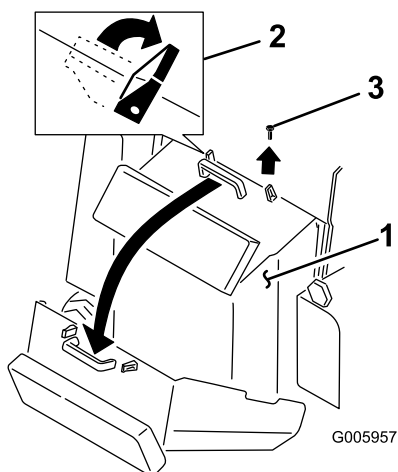

Figure 25
2. Release the 2 locking tabs on top of the rear-access cover (Figure 25).
3. Remove the bolt located next to the right locking tab (Figure 25).
4. Grasping the handle, pull the cover up and back to swing it open (Figure 25).